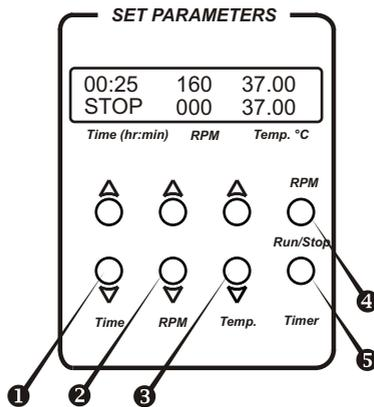

Fig.1 Control panel
- 4.3. With the help of "▲" and "▼" **Time** keys (Fig. 1/1) set the required working time interval in hours and minutes (increment 1 min). If the key is pressed more than 2 sec the increment becomes bigger.
- 4.4. With the help of “▲” and “▼” **RPM** keys (Fig. 1/④) set the required shaking intensity in revolutions per minute (increment 10 RPM). If the key is pressed more than 2 sec the increment becomes bigger.
- 4.5. With the help of “▲” and “▼” **Temp.** keys (Fig. 1/⑤) set the necessary temperature (increment 0.1°C). If the key is pressed more than 2 sec the increment becomes bigger. The set parameters can also be changed during operation.
- 4.7. Press the **RPM-Run/Stop** key (Fig. 1/④). The platform will start rotation and the timer indicator will start counting up the time interval (with 1 min precision).
Caution: At the end of the set time period the platform movement is stopped automatically, but the heating can be stopped ONLY manually by reducing the temperature with the “▼” **Temp.** key (Fig. 1/⑤ - lower key) till the OFF sign appears in the upper line of the display.
- 4.10. If required, it is a possibility to restart the timer when it is running. Press the **Timer-Run/Stop** key once (Fig. 1/⑤) to stop the timer. Press the **Timer-Run/Stop** key again to restart the timer.